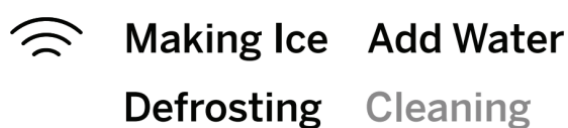

Figure 4
7. Water will begin circulating and the 'Cleaning' indicator will light up on the left-hand side of the unit to confirm the unit is now in cleaning process See figure 4. After three minutes the water will stop and the 'Cleaning' indicator light will turn off.